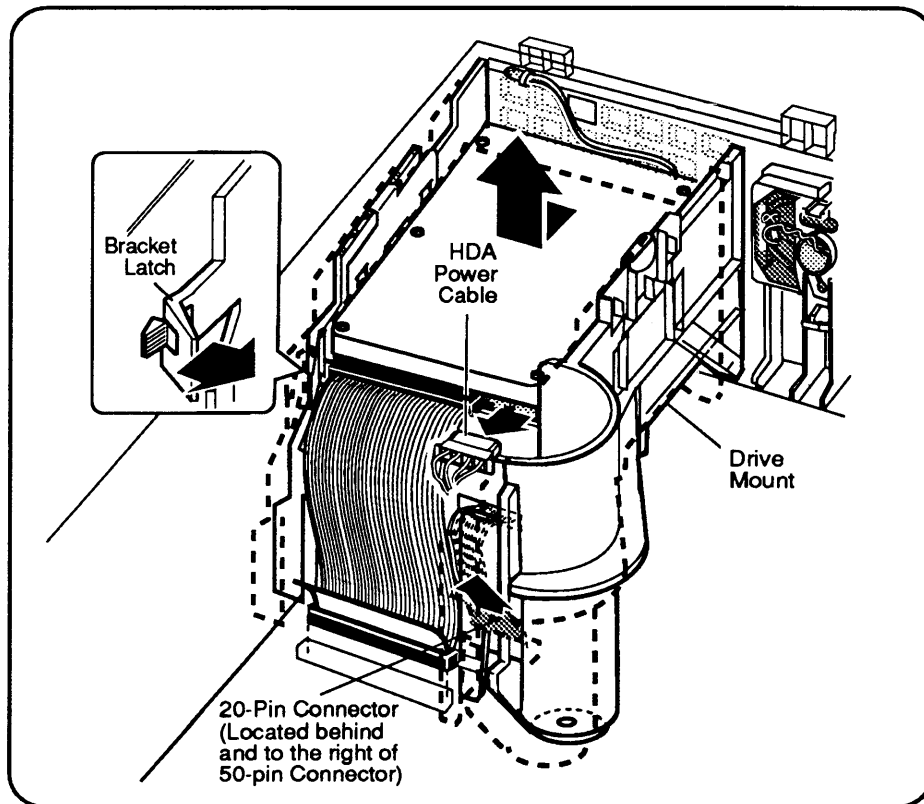

Figure 2-12 Removing the Disk Drive Mount
6. Disconnect the 20-pin connector (**Figure 2-12**) from the logic board.
7. Disconnect the power cable connector from the hard disk drive (**Figure 2-12**).
8. Unlatch the carrier (**Figure 2-12**) along the side of the disk drive mount. At the same time, pull the mount one half inch toward the rear of the case. Lift the mount to remove it from the case.